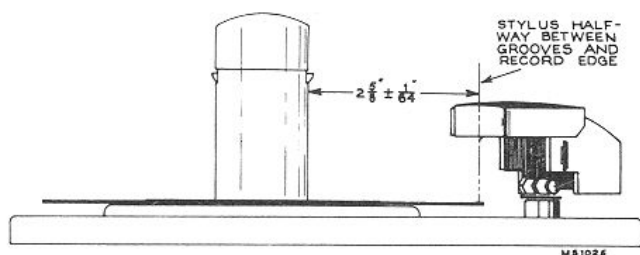

Fig. 36
4. Loosen clamp screw (G) and move pickup arm so the stylus is approximately  $2\frac{3}{8}$ " from side of centerpost. Tighten clamp screw. (See Figs. 36, 39.)